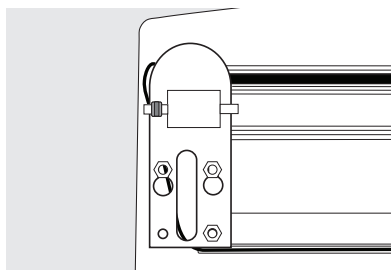

Figure 7
17. Remove the left bottom hinge using 5/16" (8 mm) wrench and install on the right side. Figure 7.